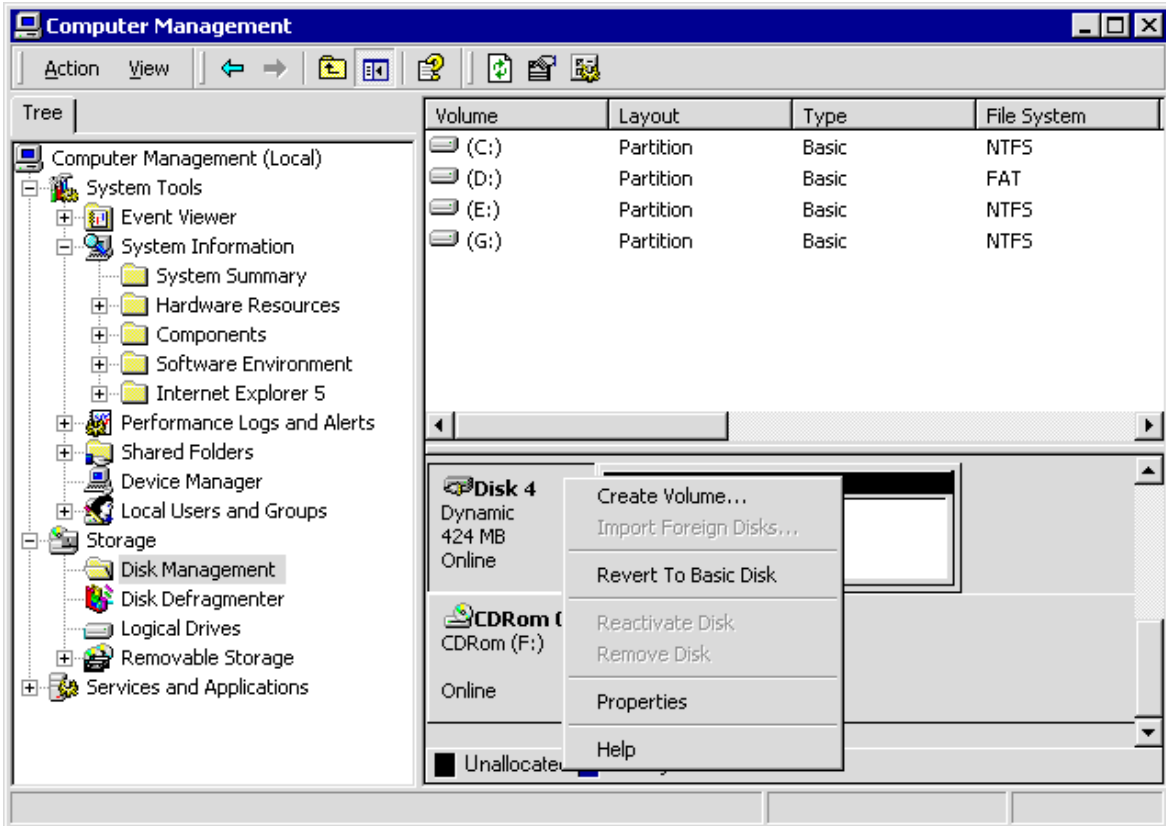

Figure 28. Changing a shared logical drive to Basic Disk
- 1) With the right-mouse button, click the Disk icon at the bottom of the Disk Management window (see Figure 28 on page 116).